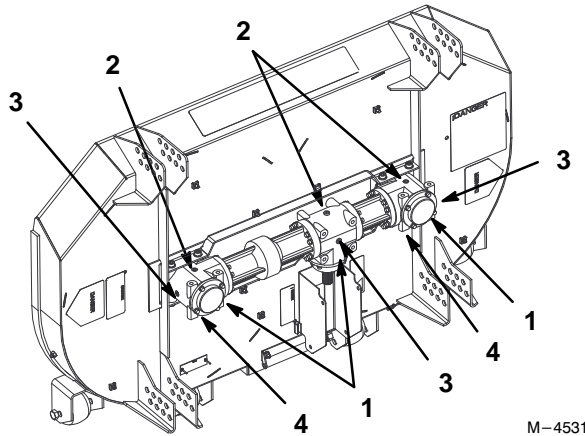

Figure 3
4. With deck raised, remove plug on the bottom side of the gearbox. Let fluid fully drain into a pan. (Fig. 3).
5. Reinstall the bottom plug into the gearbox (Fig. 3).
6. Remove the top plug to fill gearbox (Fig. 3).
8. Reinstall the top plug into the gearbox (Fig. 3).
3. Remove plug on the side of the gearbox. The fluid level must be up to side hole in gearbox (Fig. 3).
4. If needed, fill automatic transmission fluid (Dexron® III) into top hole until it runs out the side hole in gearbox. Gearbox is full when fluid runs out the side hole (Fig. 3).
5. Reinstall the top and side plugs into gearbox with pipe sealant (Fig. 3).